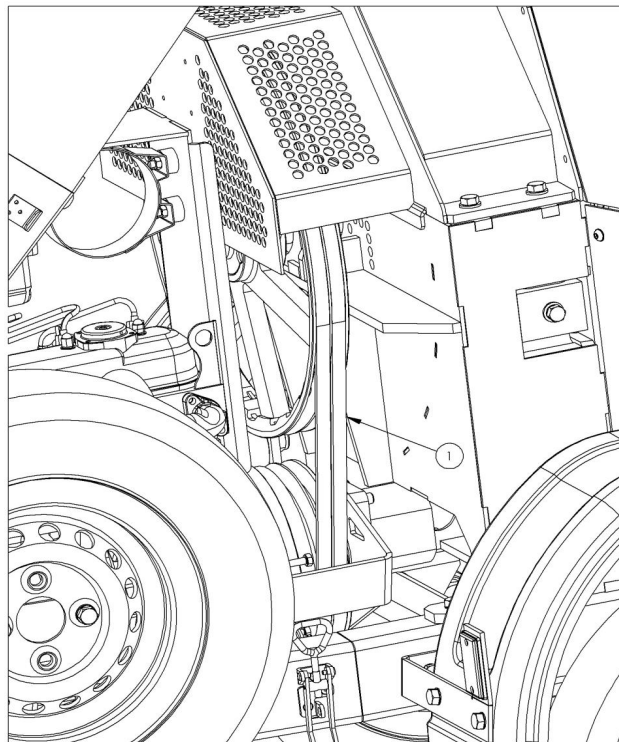

Figure 15
All drive belts are located under the engine cover as shown in Figure 12 and Figure 13 and tension checked at arrows shown in Figure 15. Check and set tension as follows:
1. Slacken clamp screw(s) or nut (6).
2. Hydraulic pump adjuster screw requires its lock nut to be slackened (5).
3. Turn adjuster nut or screw (4) to tension belt until 4.5Kg force at the belt longest centre span deflects by 6mm (see Figure 15). Can be approximated by firmly gripping belt between finger and thumb and twisting. The belt should not be able to be rotated more than 90°.